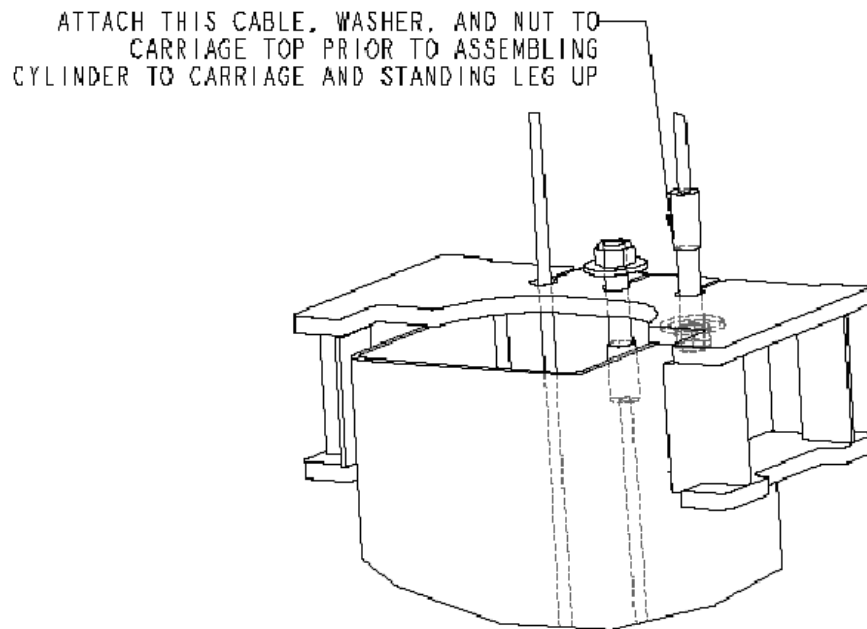

Figure 5
M. Feed one end of an equalization cable down through the rightmost hole in the carriage top, figure 5. Continue to feed the cable until it extends out the bottom of the carriage. Attach a nylon insert locknut and washer to the end of the cable so that 1/8" of cable stud extends past the end of nut. Pull the opposite end of the cable until the washer contacts the carriage top. Repeat for the other cable/carriage.